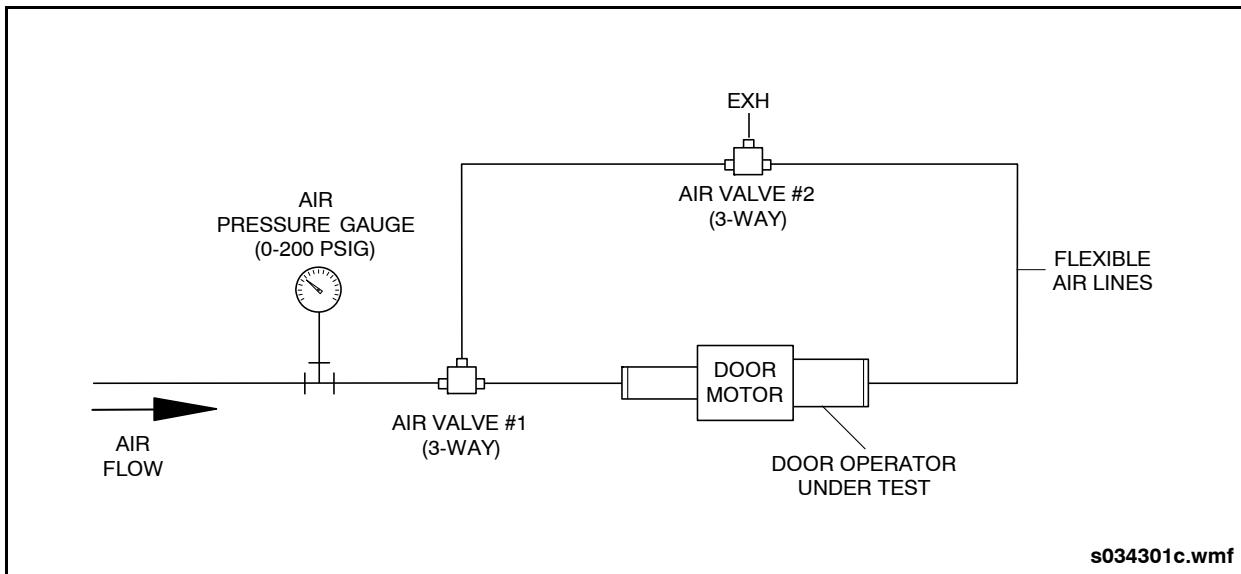

Fig. 16-19: Piping Arrangement for Testing Door
1. Pressure regulated air supply, 120 to 125 psi. See "Fig. 16-19: Piping Arrangement for Testing Door" on page 45.